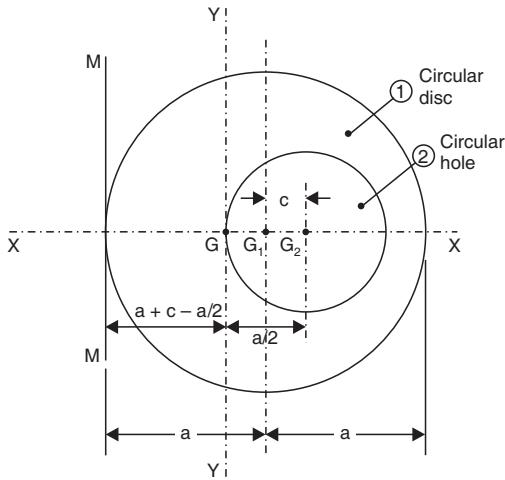

Fig. 7.28
**Sol.** Refer to Fig. 7.28. Since, the remaining body is symmetrical about X-axis, therefore,